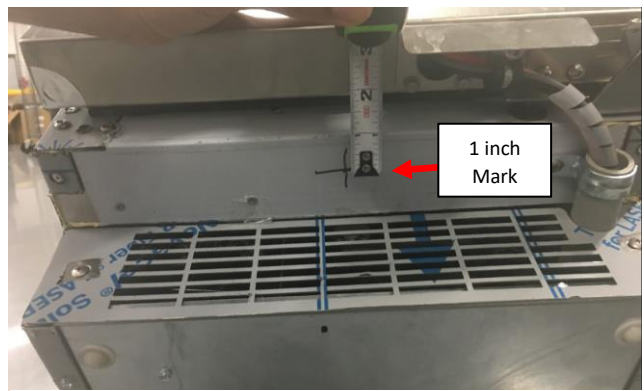

Figure 102b: 1" mark from front face.
- ii. Mark 1-inch from the front face of the Overhang and mark the drill location. **See Figure 102b.**